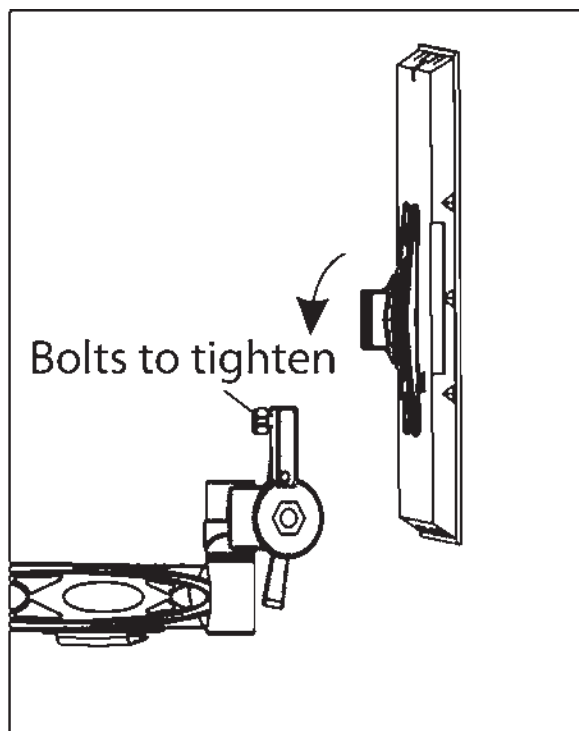

Fig. 8
1. Lift the television (with TV plate attached) and slide the mount attachment knob into the receiver on the arm as shown (Fig 8).